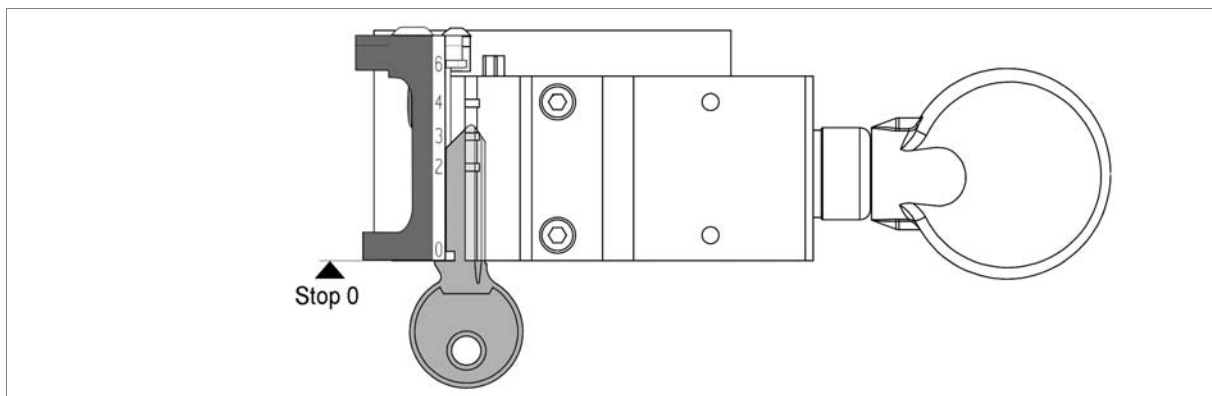

Fig. 57
- 7) Fit the key/template **Z3** into the clamp, making sure the back is well aligned on the bottom and the key stop is all the way up against position "0" (fig. 57).